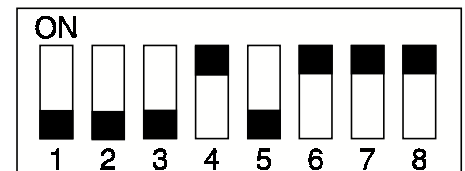

Fig. 1
1. Turn off the power, and set the DIP switch (SW103) on the finisher controller PCB as shown in Figure 1.